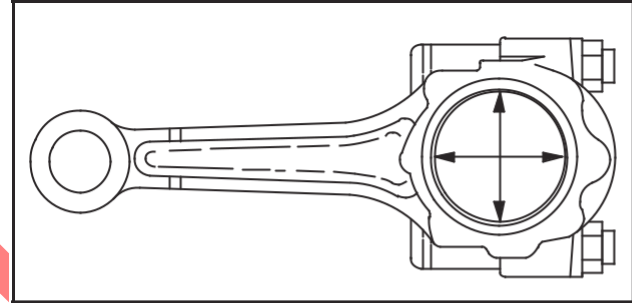

Fig. 8 – Checking Crankpin Bearing End
3. Check crankpin bearing end of connecting rod for out of round, Fig. 8.